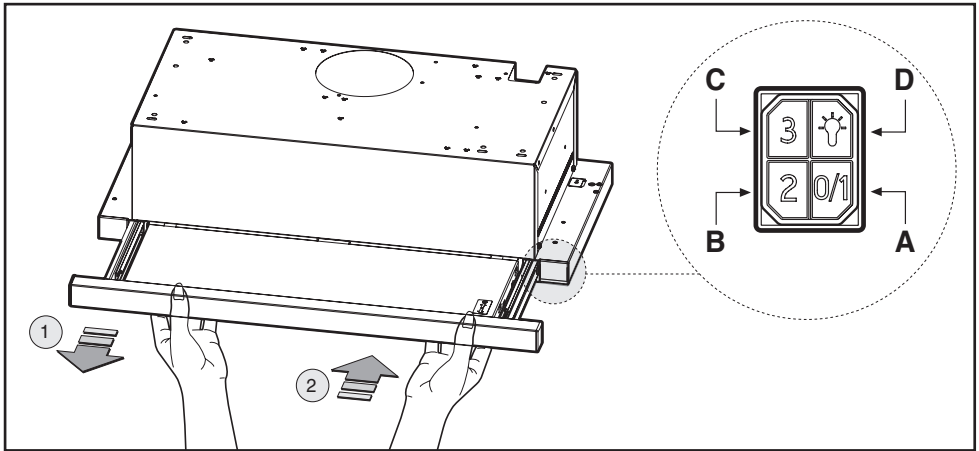

Fig.9.2
• **Slider controls (Fig.9.2), the symbols are shown below:**